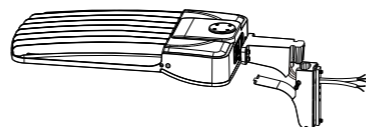

Figure 5
- Step 1: Pass the input wire through the bracket, then fix the fixing plate on the housing. (Figure 5)